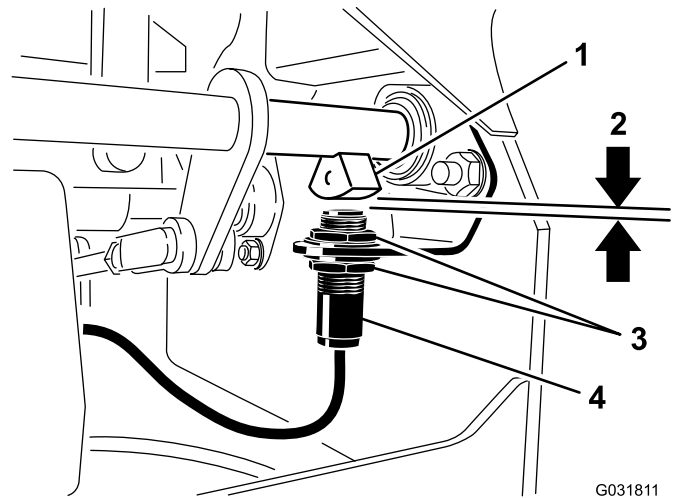

Figure 48
4. Move the switch up or down on the bracket until the distance between the brake-shaft sensor and the switch plunger is 4 mm (5/32 inch) as shown in Figure 48.